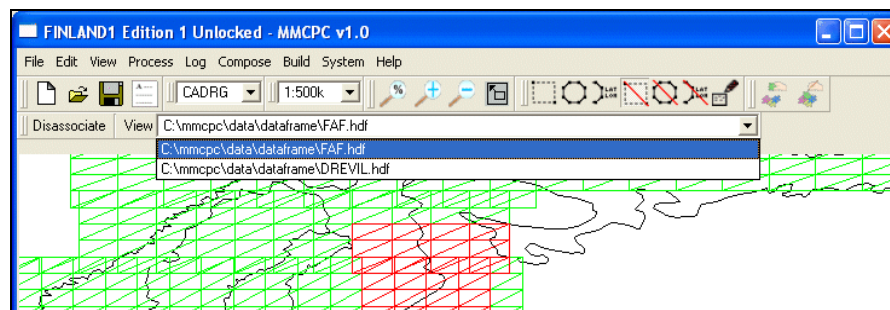

Fig. 54 — List of associated data frames
- c. Select a data frame(s) by clicking on the file name(s). Click Open to associate the data frames. A list of associated data frames (Fig. 54) can be viewed from the tool bar (Section 3.2.2.6).